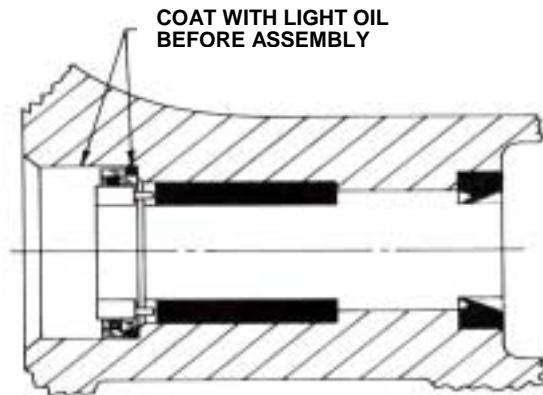

FIGURE 8
5. Install seal seat in seal housing bore, Refer to Figure 8. Make sure drive pins are located in slots in bracket bushing.